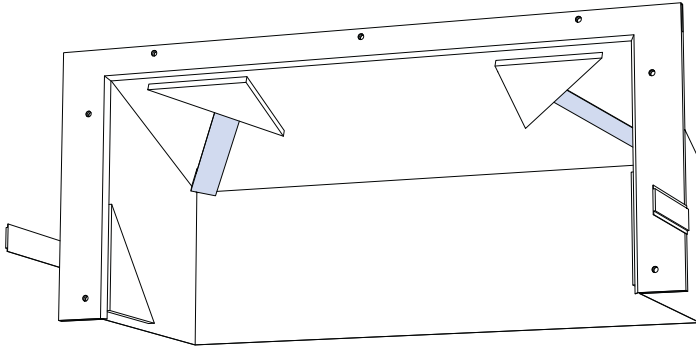

Figure 24: Freeing Rain Hood Struts
3. Reach inside the rain hood and free the two struts from the top corner pockets nearest the loudspeaker (Figure 24).